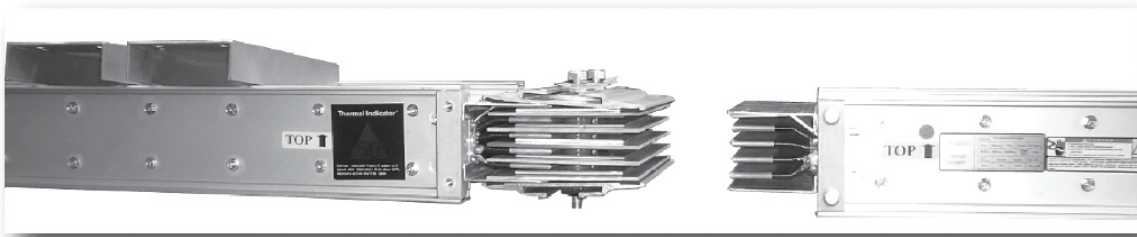

Fig. 26.1
1. Align the sections to be joined by matching up the TOP labels attached to the ends of each section. Use tools provided by manufacturer to ease the installation. Ref. Fig.26.1 and 26.2